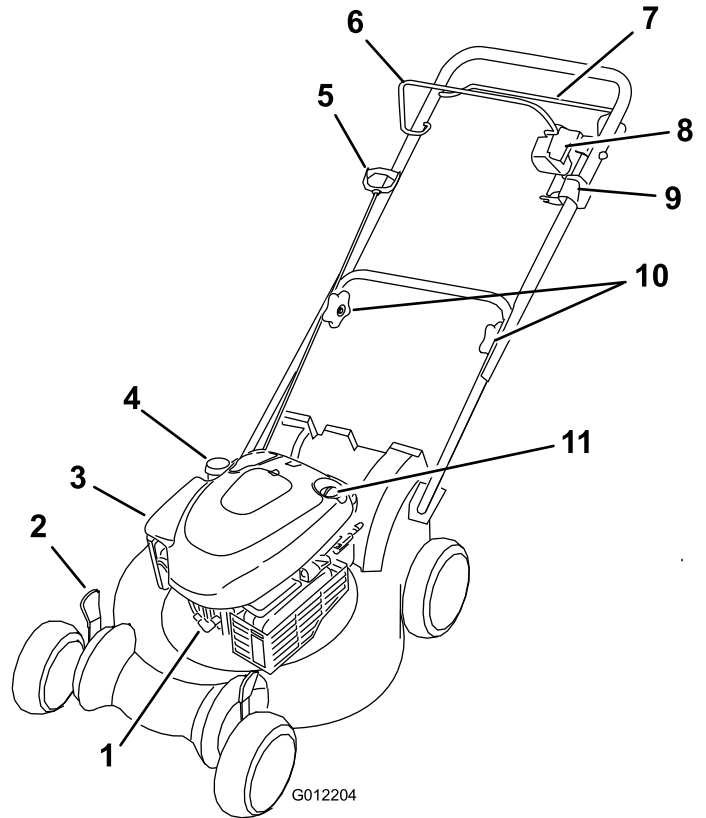

Figure 10
2. If the ignition switch on your mower (Figure 10) is a toggle switch (with both an "I" and a "Stop"), push the switch to the ("I") position. Otherwise, go to step 3.
If the ignition switch on your mower (Figure 10) is a toggle switch (with both an “I” and a “Stop”), push the switch to the Stop position. Otherwise, hold down the ignition switch in the Stop position until the engine stops.